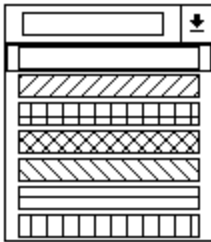

Figure 13.3 Pattern Selection Box
- ◆ Pattern: Select one of seven shading patterns to assign to the box background. Figure 13.3 shows the shading options available.
2. Open the Pattern list box (see Figure 13.3). Select a pattern from those displayed.